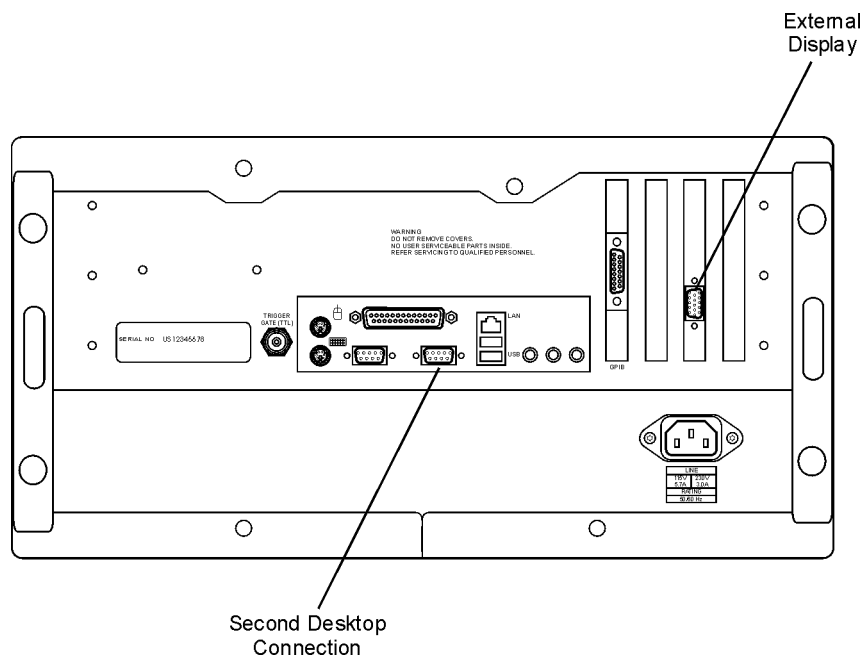

Figure 1-23. External Monitor Connector
- 1 Connect the display cable to the rear-panel VGA connector. This connector is labeled External Display on Figure 1-23.
The rear-panel VGA connector labeled Second Desktop Connection on Figure 1-23 is provided for use of the Windows second desktop feature. Refer to Windows XP Help for information on using a second desktop.